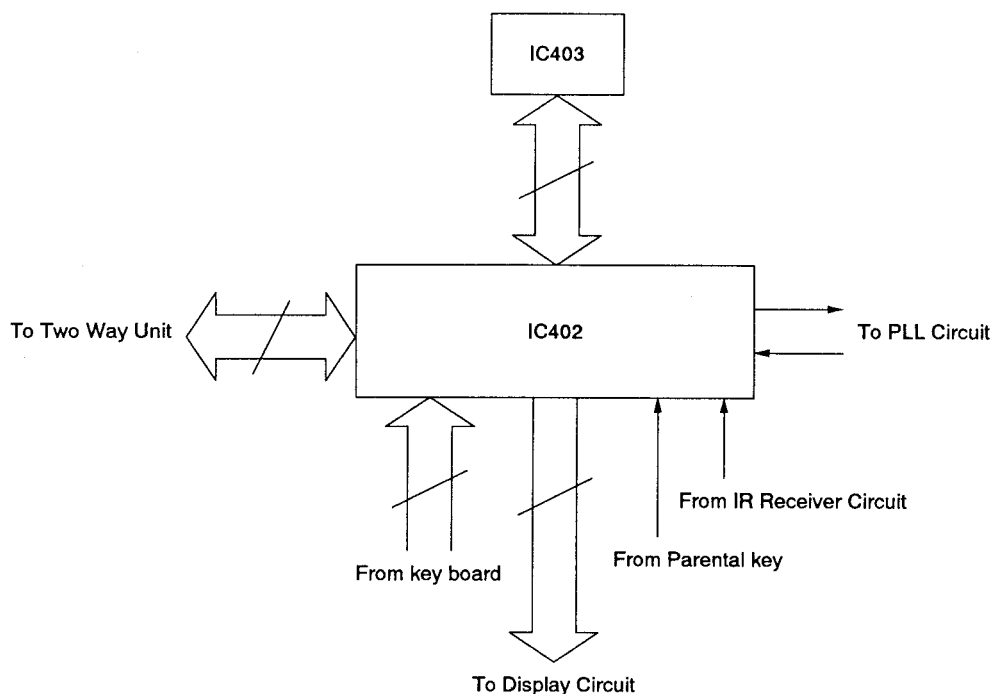

Fig. 28 Block Diagram of Logic Section
7. Logic Section (Fig. 28)
The logic section is comprised of the MPU IC402, EARM IC403 and reset circuit. Refer to the block diagram Fig. 28 of this section. Main features are listed.